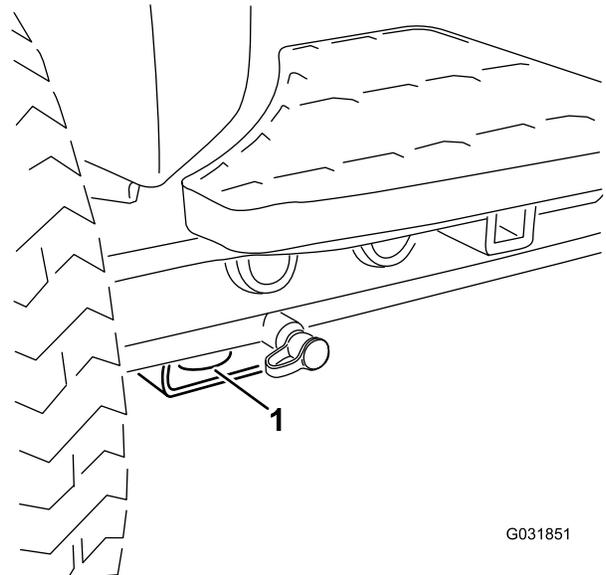

Figure 68
- Front—the hole in the rectangular pad, under the axle tube, inside each front tire (Figure 68)